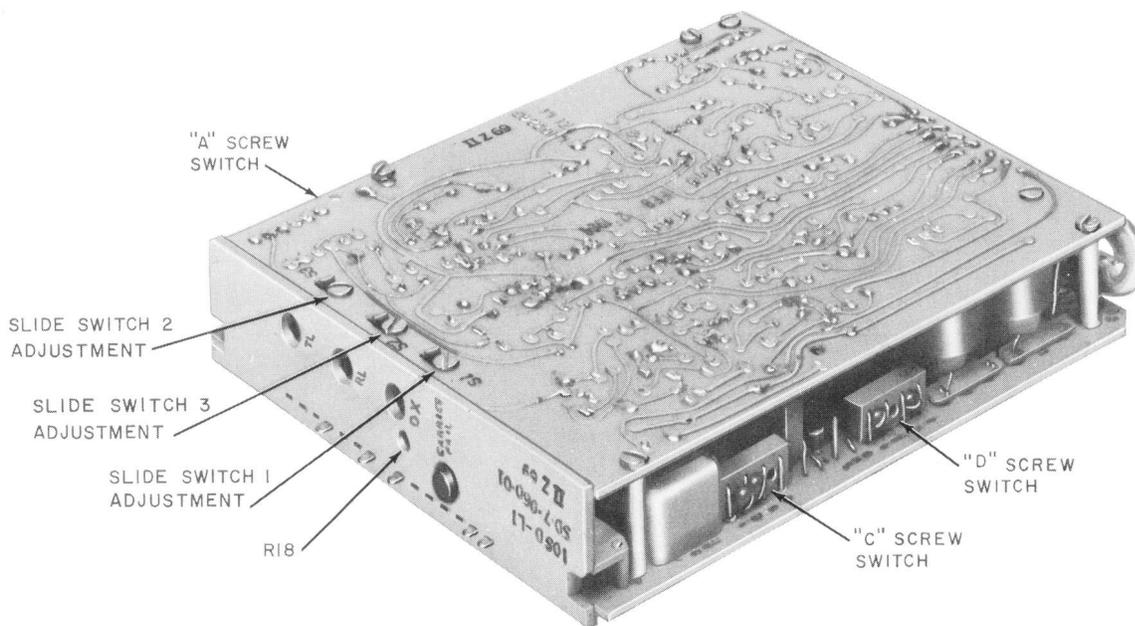

Fig. 1—Data Set 108D-Type
2.01 Data sets 108D and E (Fig. 1 and 2, respectively) consist of two printed wiring circuit boards mounted together in piggyback fashion with a single connector. The data sets (AR-type circuit packs) are approximately 5-1/2 inches high, 7 inches deep, 1-1/8 inches wide, and weigh approximately 2 pounds. The data sets will operate in an ambient temperature range from 40°F to 120°F and in an ambient relative humidity range from 20 to 95 percent. The data sets plug into the 28A1 data mounting and require nominal power sources of +24 ±3 volts and -24 ±3 volts.